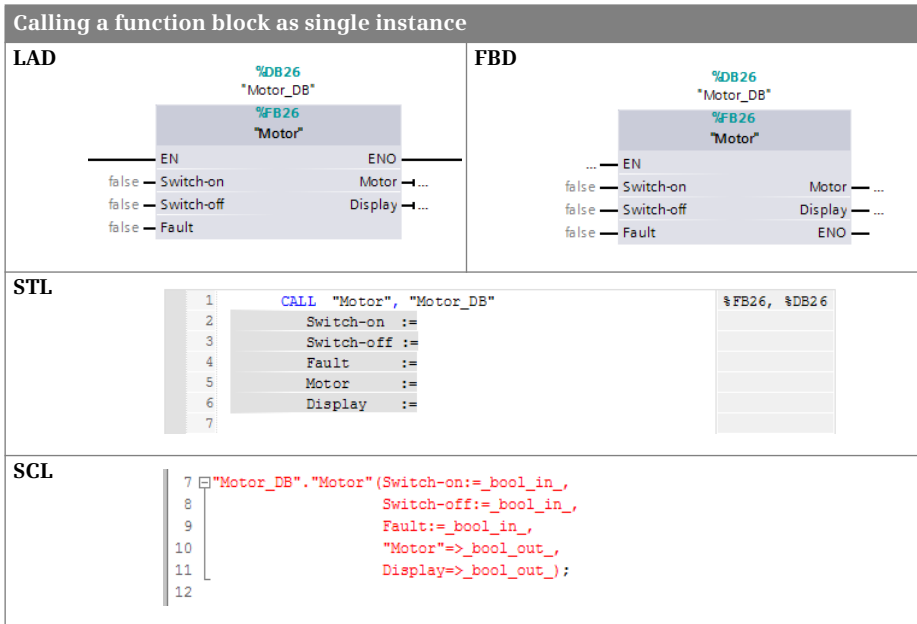

Fig. 5.10 Calling a function block as single instance
Fig. 5.10 shows an example of calling a function block (FB) as a single instance in the various programming languages. The function block in the example is named “*Motor*”; the instance data block assigned to the call is named “*Motor_DB*”.